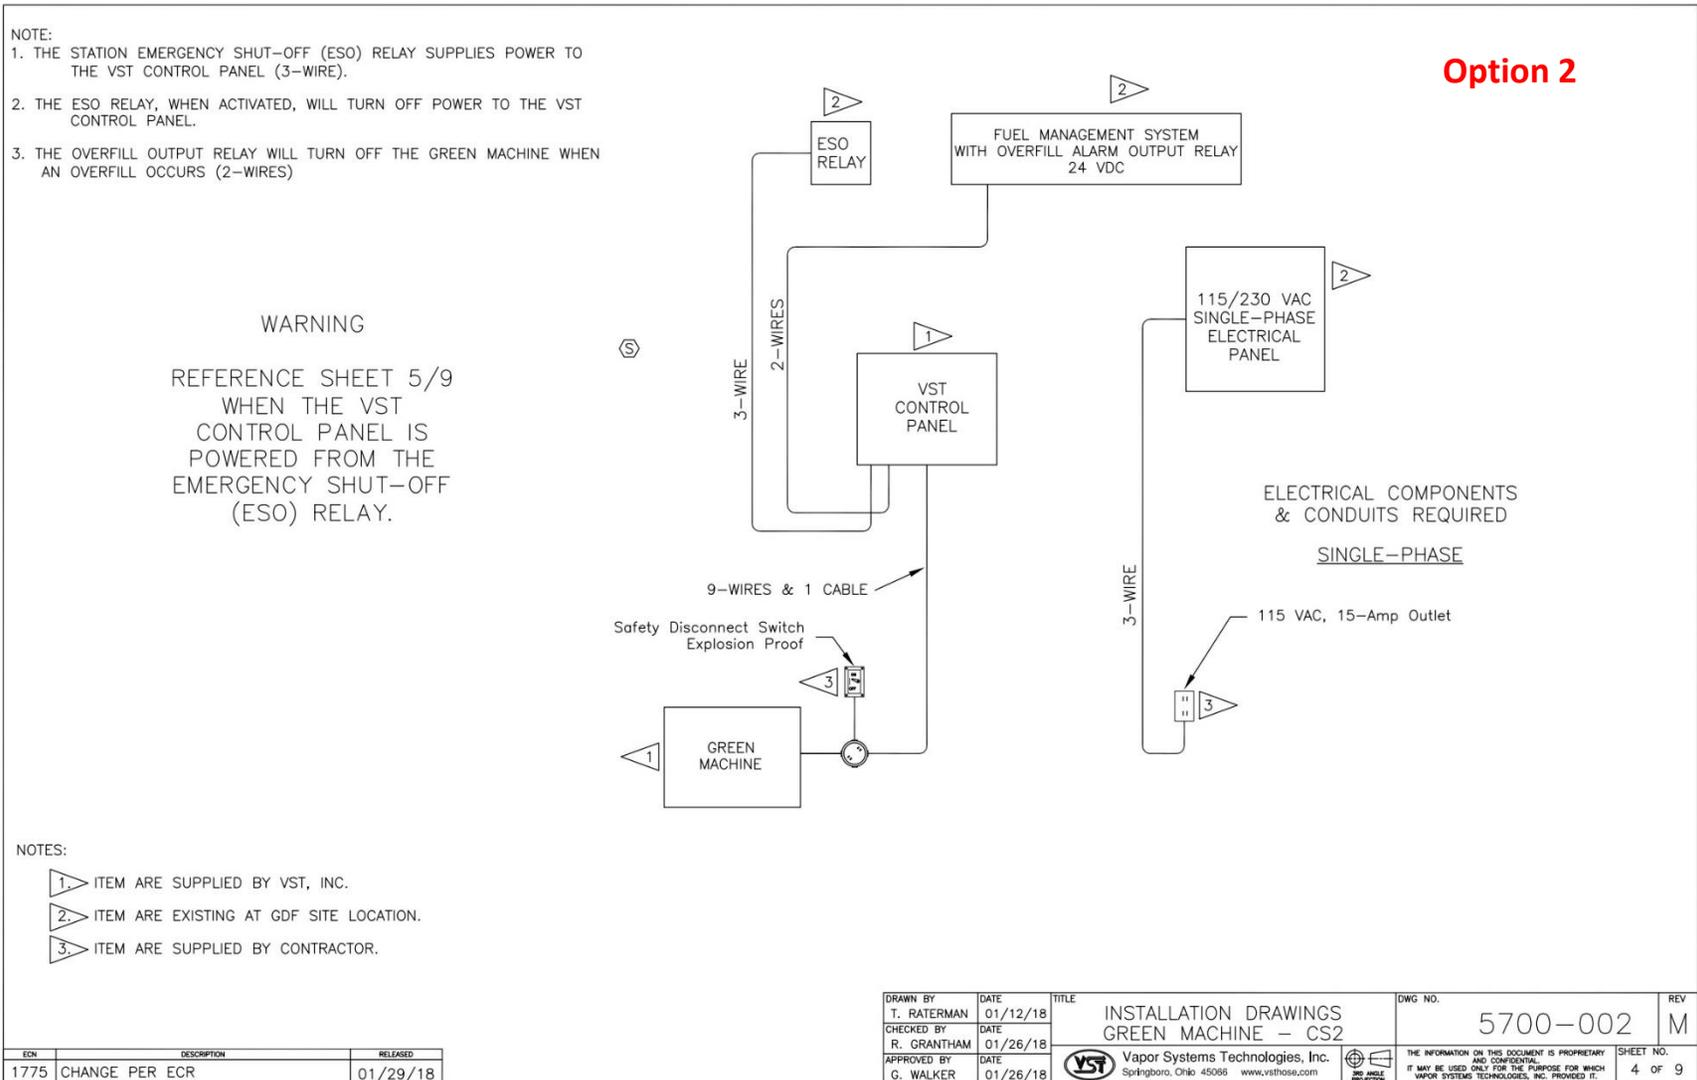
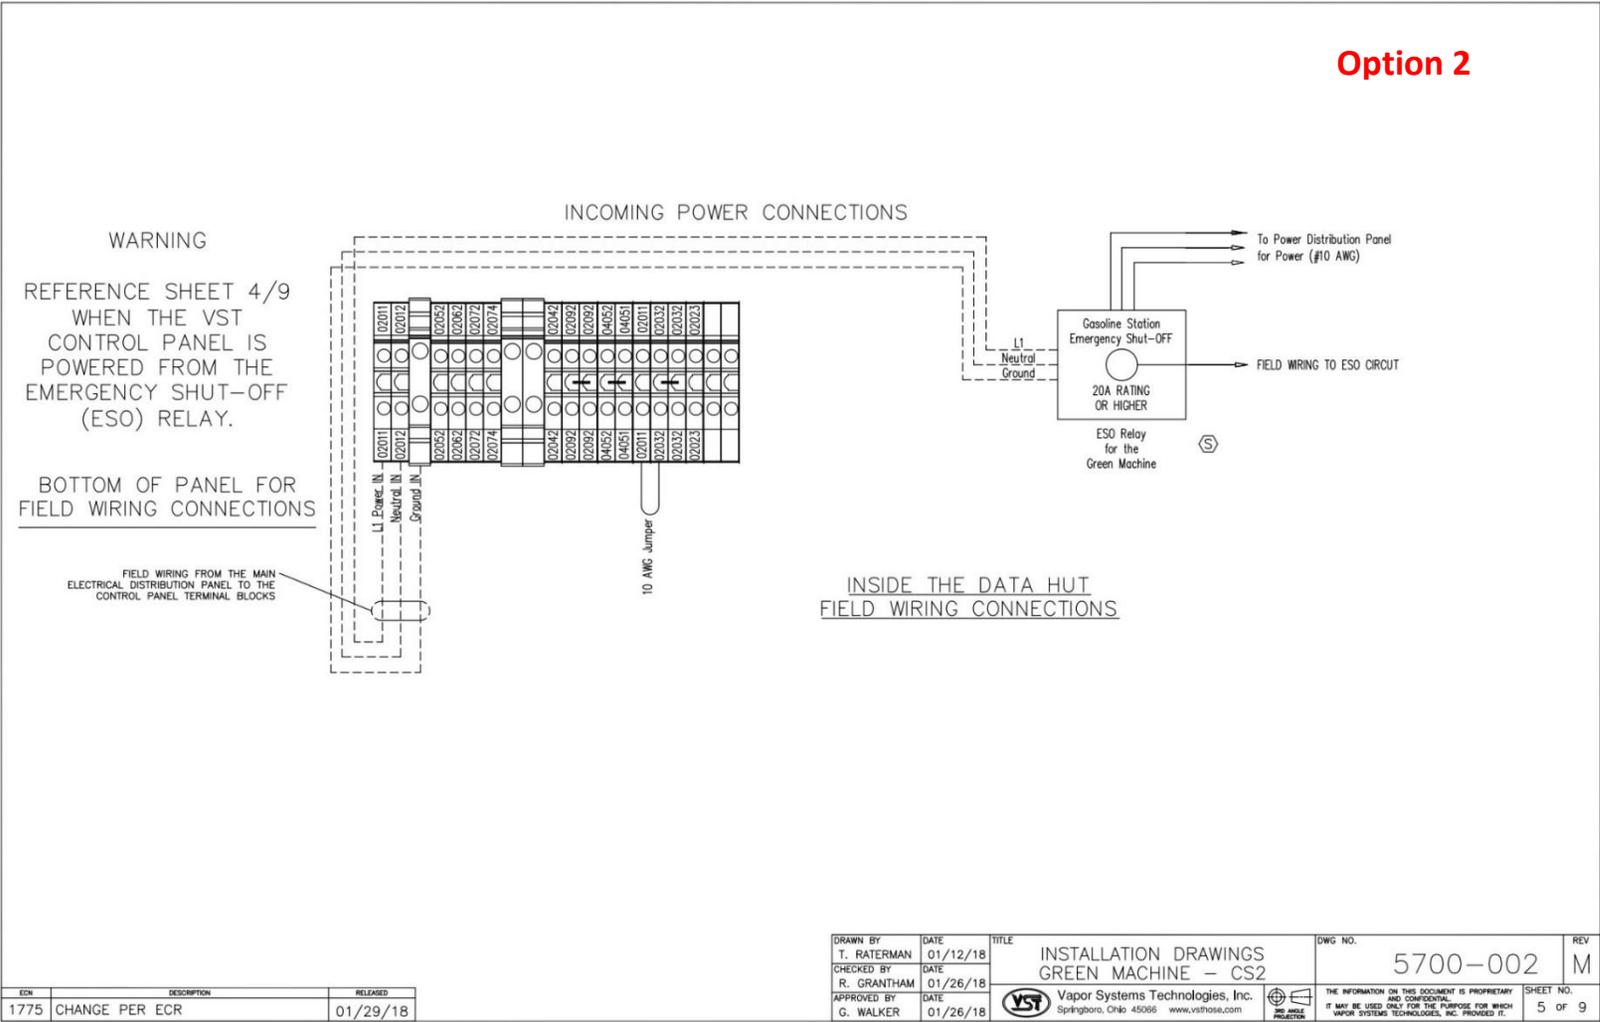

Figure 8-7: VST Control Panel Powered from ESO Relay
Figure 8-8: Electrical Overview Installation Drawing
1.	Note that the VST Control Panel is powered through the ESO breaker. See Figures 8-7 &amp; 8-8.
3.	The VST Control Panel must be supplied 115 VAC power through an Emergency Shut-Off (ESO) dry relay for the VST Control Panel to have power and for the GREEN MACHINE to operate. See Figures 8-7 &amp; 8-8. <ul style="list-style-type: none"><li data-bbox="427 762 1198 789">a) Verify the VST Control Panel is connected to the station ESO.</li><li data-bbox="427 842 1398 905">b) Verify the ESO is not engaged. If the ESO is engaged the GREEN MACHINE will not have 115 VAC power.</li><li data-bbox="427 957 1344 1020">c) Verify all the wire connections from the VST Control Panel to the ESO are correct and tight.</li><li data-bbox="427 1073 1377 1167">d) Verify the ESO circuit has 115 VAC power from the VST Control Panel across terminals 02011 and 02032 by checking the continuity of the jumper. See Figure 8-8.</li><li data-bbox="427 1251 1409 1356">e) Verify that the 115 VAC Over/Under Voltage Relay is adjusted to 118 VAC or at the local voltage. See Figure 8-10.</li></ul>